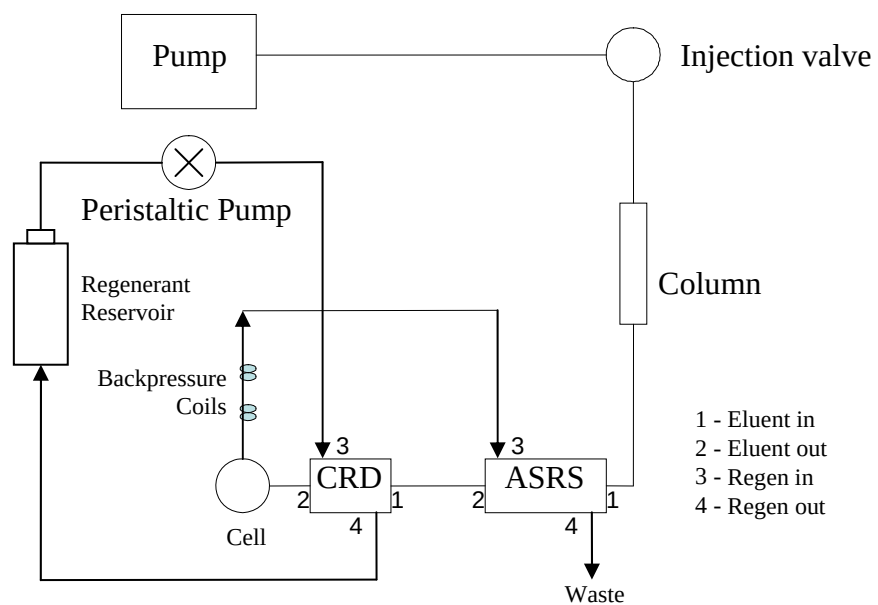

FIGURE 6
2. To begin plumbing of the CRD 300, refer to the plumbing schematic as shown in Figure 6.